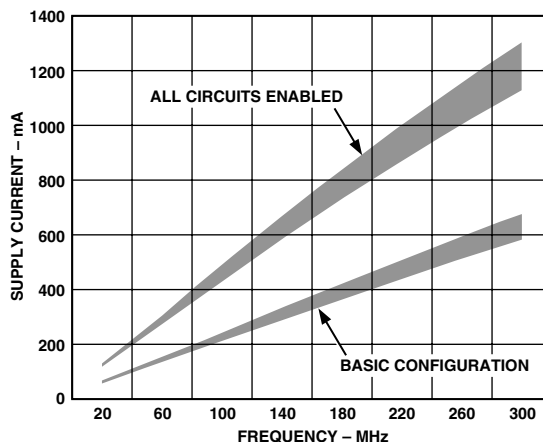
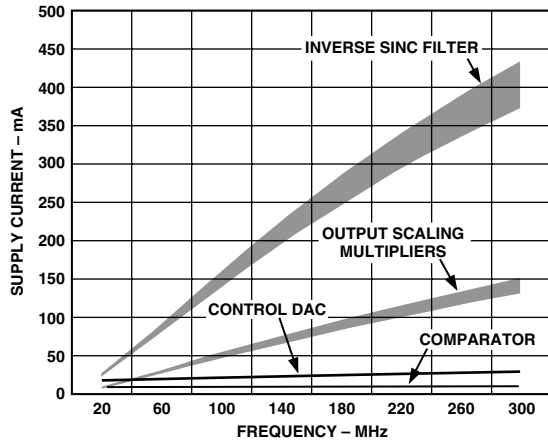

Figure 58a. Current Consumption vs. Clock Frequency
Figure 58b. Current Consumption by Function vs. Clock Frequency
**Mode of Operation**—the selected mode of operation for the AD9852 has a great influence on total power consumption. The AD9852 offers many features and modes, each of which imposes an additional power requirement. The collection of features contained in the AD9852 target a wide variety of applications and the device was designed under the assumption that only a few features would be enabled for any given application. In fact, the user must understand that enabling multiple features at higher clock speeds may cause the maximum junction temperature of the die to be exceeded. This can severely limit the long-term reliability of the device. Figures 58a and 58b provide a summary of the power requirements associated with the individual features of the AD9852. These charts should be used as a guide in determining the optimum application of the AD9852 for reliable operation.
As can be seen in Figure 58b, the Inverse Sinc filter function requires a significant amount of power. As an alternate approach to maintaining flatness across the output bandwidth, the digital multiplier function may be used to adjust the output signal level, at a dramatic savings in power consumption. Careful planning and management in the use of the feature set will minimize power dissipation and avoid exceeding junction temperature requirements within the IC.
Figure 58a shows the supply current consumed by the AD9852 over a range of frequencies for two possible configurations: *all circuits enabled* means the output scaling multiplier, the inverse sinc filter, both DACs, and the on-board comparator are all enabled. *Basic configuration* means the output scaling multipliers, the inverse sinc filter, the control DAC, and the on-board comparator are all disabled.
Figure 58b shows the approximate current consumed by each of four functions.
Figures 58a and Figure 58b may be used to determine the suitability of a given AD9852 application vs. power dissipation requirements. These graphs assume that the AD9852 device will be soldered to a multilayer PCB per the recommended best manufacturing practices and procedures for the given package type. This ensures that the specified thermal impedance specifications will be achieved.